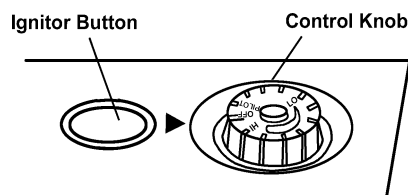

Figure 20 - Control Knob in The OFF Position
4. Wait five(5) minutes to clear out any gas. Then smell for gas, including near the floor. If you smell gas, STOP! Follow "B" in the safety information on the side of heater. If you don't smell gas, go to the next step.
5. Turn control knob counterclockwise ↺ to the PILOT position. Press in control knob for five(5) seconds. (see Figure 20).
8. Turn control knob counterclockwise ↺ to desired heating level. The main burner should light. Set control knob to any heat level between HI and LO. (see Figure 20)